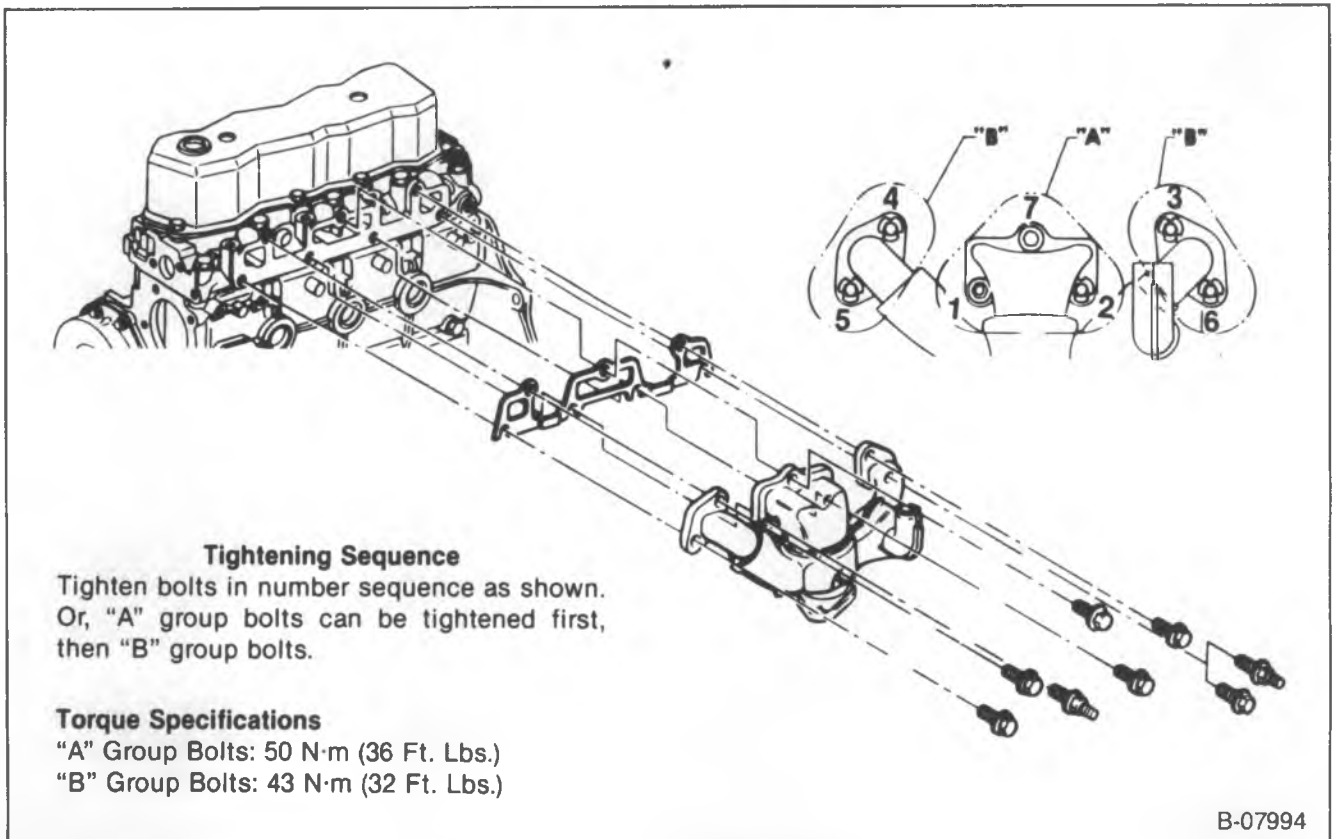

Figure 60—Exhaust Manifold Installation
Install or Connect (Figure 60)
- Exhaust manifold bolts. Use the tightening sequence and the specifications shown in figure 60.